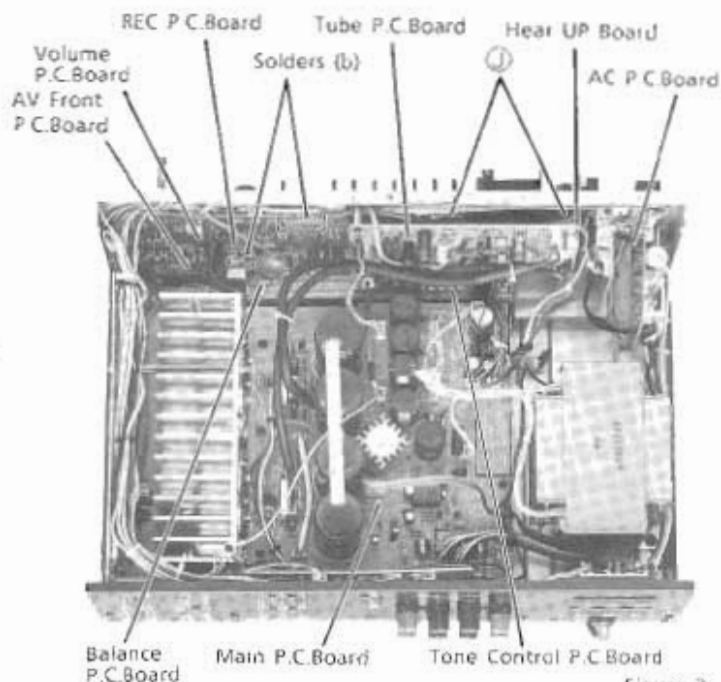

Figure 7
- Remove two screws marked "ⓓ" as shown in Figure 7.
- Remove two solders (b) as shown in Figure 7.